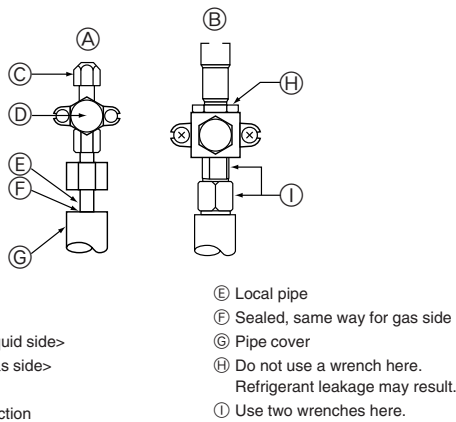

Fig. 4-4
- ① Perform refrigerant piping connections for the indoor/outdoor unit when the outdoor unit's stop valve is completely closed.
- ② Vacuum-purge air from the indoor unit and the connection piping.
- ③ After connecting the refrigerant pipes, check the connected pipes and the indoor unit for gas leaks. (Refer to 4.4 Refrigerant pipe airtight testing method)
- ④ A high-performance vacuum pump is used at the stop valve service port to maintain a vacuum for an adequate time (at least one hour after reaching -101 kPa (5 Torr)) in order to vacuum dry the inside of the pipes. Always check the degree of vacuum at the gauge manifold. If there is any moisture left in the pipe, the degree of vacuum is sometimes not reached with short-time vacuum application. After vacuum drying, completely open the stop valves (both liquid and gas) for the outdoor unit. This completely links the indoor and outdoor coolant circuits.
- ⑤ Use sealant to seal the ends of the thermal insulation around the pipe connection sections to prevent water from entering the thermal insulation.
4.4. Refrigerant pipe airtight testing method (Fig. 4-4)